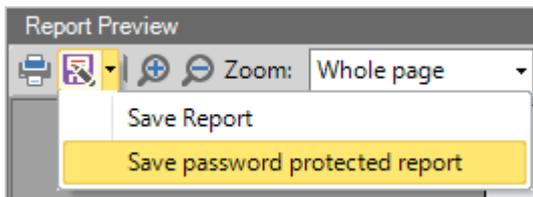

Figure 8-10. Saving a Report as password-protected PDF file
- From the **Report Preview** toolbar, expand the **Save As** button to display the menu items. Select **Save password protected Report**, see Figure 8-10.